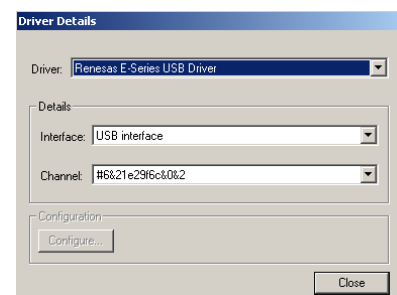

Figure 8: Driver Details
- e.) Select “Renesas E-Series USB Driver”. The “Details” items will autofill within a few seconds (Figure 8).